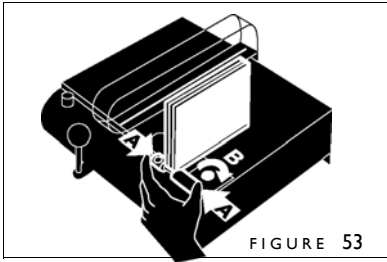

FIGURE 53
2. After it has cooled, place your bound book block between the Book Thickness Rings (Figure 53). Push the two rings together (A) and tighten the Book Thickness Locking Knob (B). Remove your book block.